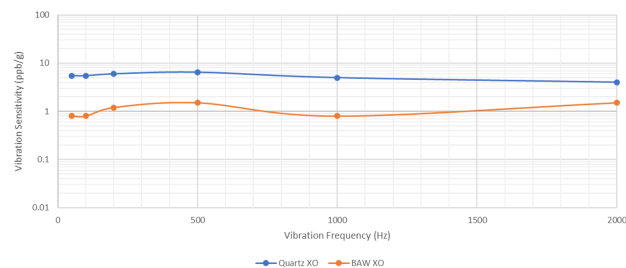

Figure 5. Vibration Sensitivity - BAW Oscillator vs. Quartz Oscillator
- **Vibration Sensitivity:** XOs typically do not pass MIL-STD and can be as high as +10 ppb/g. The BAW oscillator passes MIL_STD_883F Method 2002 Condition A with a typical is 1 ppb/g (Figure 5).